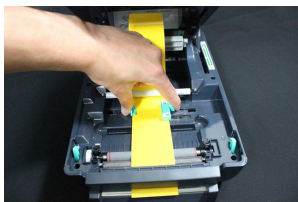

Figure 5
Step 5: Adjust the green guides so the right-hand guide lip is over the vinyl (this guide contains a sensor that must be positioned over the vinyl). Your printer and supplies should now resemble Figure 5.